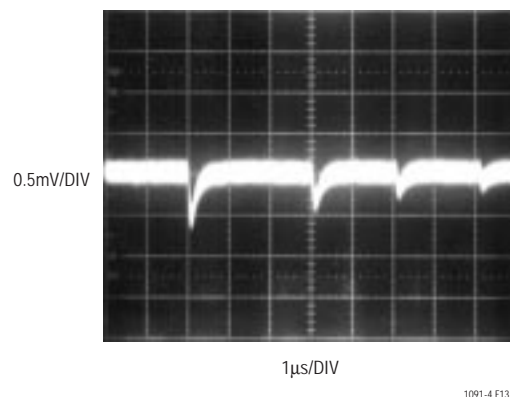

Figure 13. Adequate Reference Settling
2. Transients on the reference inputs caused by the capacitive switching currents must settle completely during each bit test (each CLK cycle). Figures 13 and 14 show examples of both adequate and poor settling. Using a slower CLK will allow more time for the reference to settle. However, even at the maximum CLK rate of 500kHz most references and op amps can be made to settle within the  $2\mu\text{s}$  bit time.